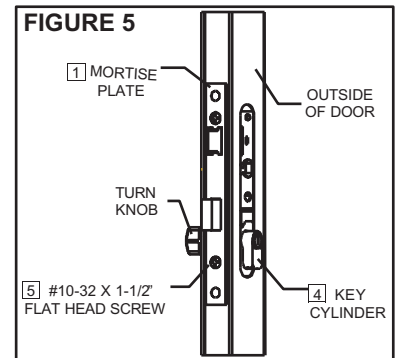

FIGURE 5
A. On the inside of the door, insert key cylinder through the latch assembly, aligning the screw hole in the key cylinder with the hole in the mortise plate; insert the #10-32 X 1-1/2" flat head screw into the mortise plate and key cylinder. Prior to tightening the screw, turn the key cylinder to extend the deadbolt. Return the deadbolt to the fully retracted position after tightening the screw. See Fig. 5.